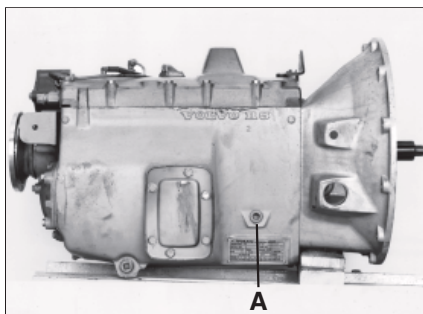

Fig. 17
Remember to fill the transmission with oil and check the oil level within the transmission at the oil level plug (A) for proper oil level. (Fig. 17)